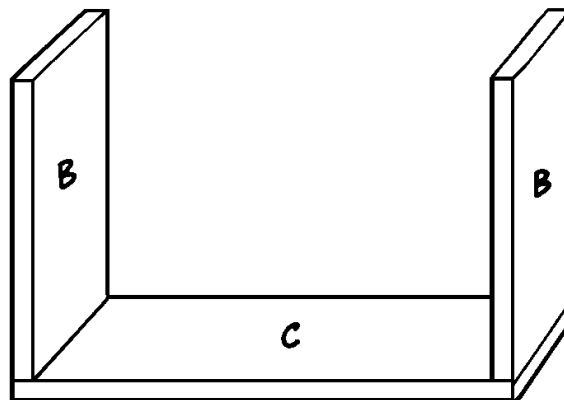

Figure 2
6. Measure the length and width of the base (A). Cut two sides (B) from 1 x 4 pine to the exact width of the rectangle.
7. Add 1-1/2" to the length of the rectangle and cut two top/bottom pieces (C) from 1 x 4 pine to that measurement.
8. Place the two sides (B) on one top/bottom piece (C), as shown in *Figure 2*. Make certain that the assembly is perfectly square. Glue the pieces together and insert two 1-1/4" screws through the top/bottom piece (C) and into the side (B) at each joint.